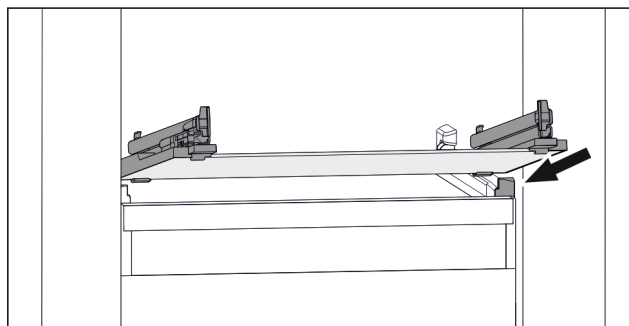

Fig. 77 Example illustration of glass shelf
- Position glass shelf at an angle behind the stoppers. (see Fig. 77)